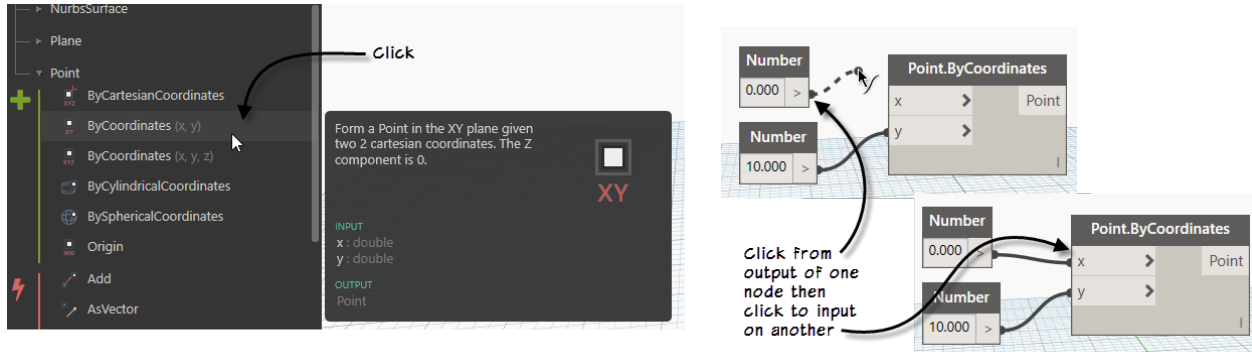

Figure 10
2. In the Library, click on: *Geometry*, then *Point* and then ***ByCoordinates (x,y)*** (see the left side of Figure 10).
5. Click on the output port (right side) of the first *Number* node and connect it to the *x* port of the *Point.ByCoordinates* node. Repeat for the second *Number* connecting it to the *y* port (see the right side of Figure 10).